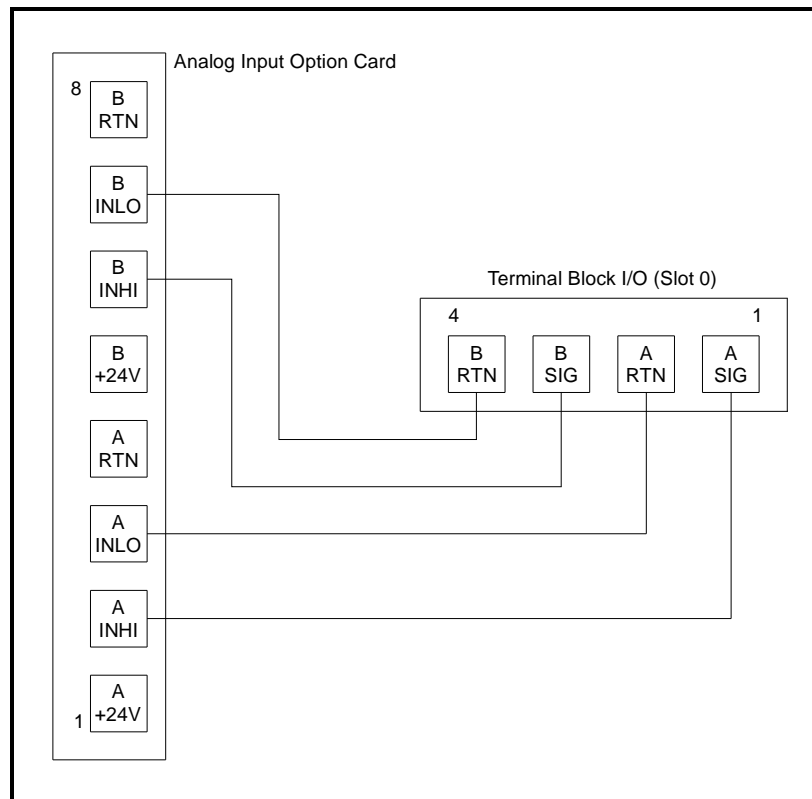

Figure 3: Analog Input Calibration Connections
Connect the Slot 0 analog output(s) (or an independent calibrated current source) to the analog input(s) on the option card, as shown in Figure 3. Refer to the menu map in Figure 6 on page 15 as a guide.
The procedure for calibrating Input A is identical to that for calibrating Input B. However, when calibrating Input B, be sure a calibrated current source is connected to the appropriate pins on the terminal block. See Figure 3 on the previous page for the correct pin numbers. To calibrate a 0/4-20 mA input card, see the section below.
1. Connect the 4 mA current source to the currently selected analog input, as shown in Figure 3 on page 6.
1. Connect the 20 mA current source to the currently selected analog input, as shown in Figure 3 on page 6.